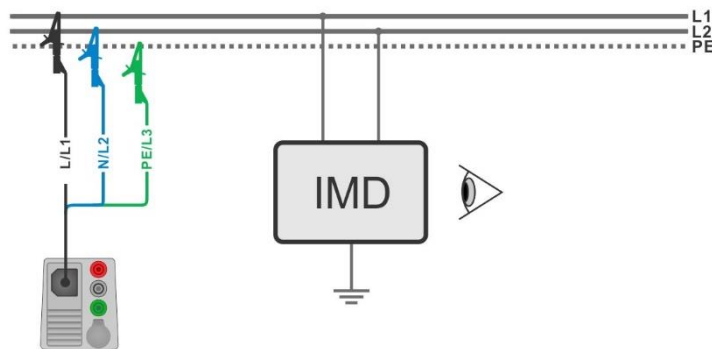
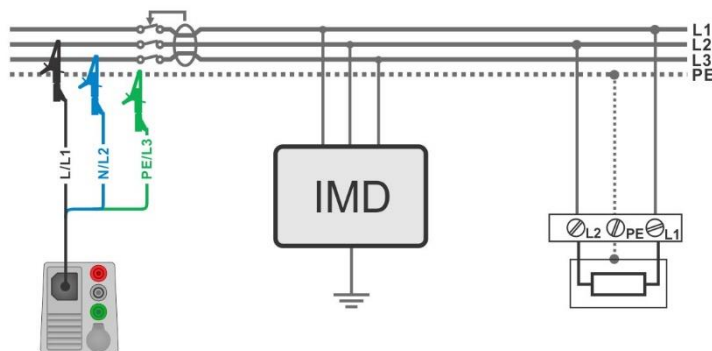

Figure 7.112: Measurement of highest First fault leakage current with 3-wire test lead
Figure 7.113: Measurement of First fault leakage current for RCD protected circuit with 3-wire test lead
- › Connect 3-wire test lead to the object under test, see **Figure 7.112** and **Figure 7.113**.